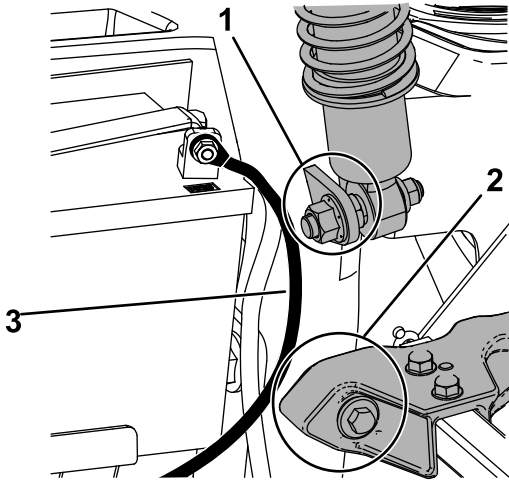

Figure 1
**Note:** For MyRide machines, ensure that the ground cable does not rub against the trailing arm or lower shock mount (Figure 1).